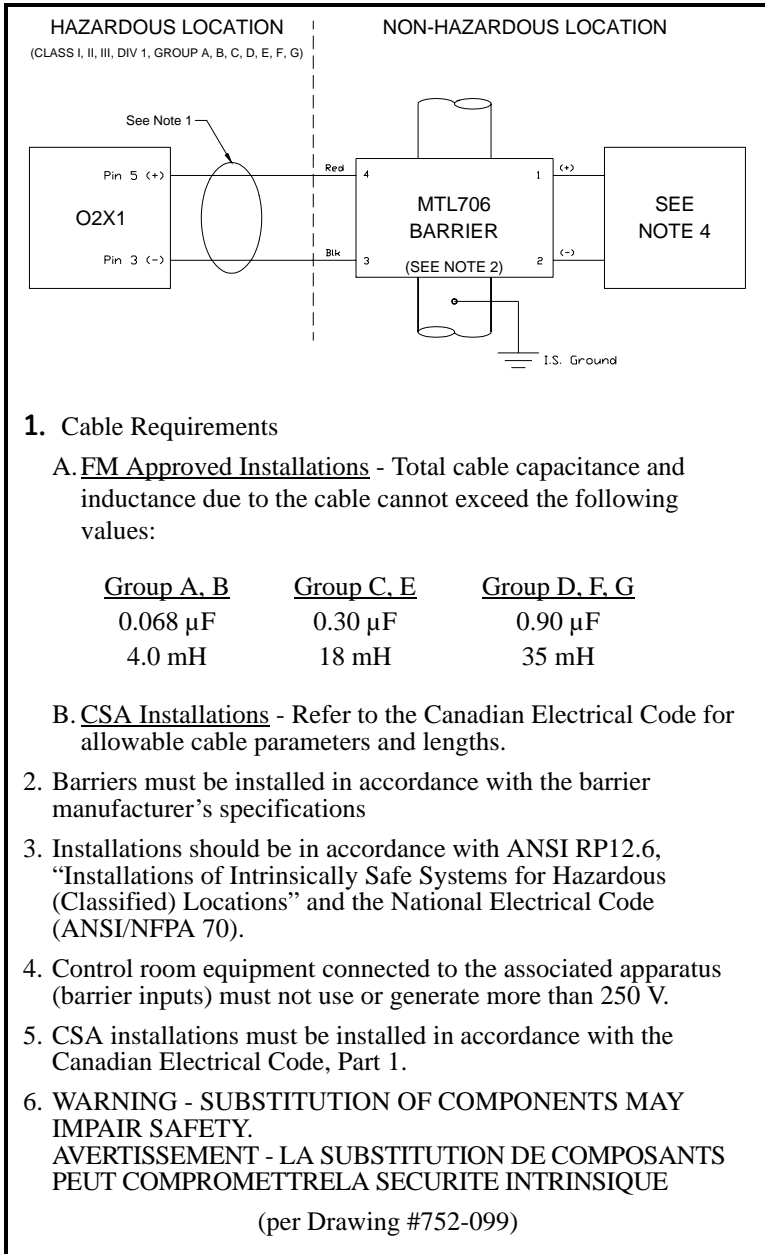
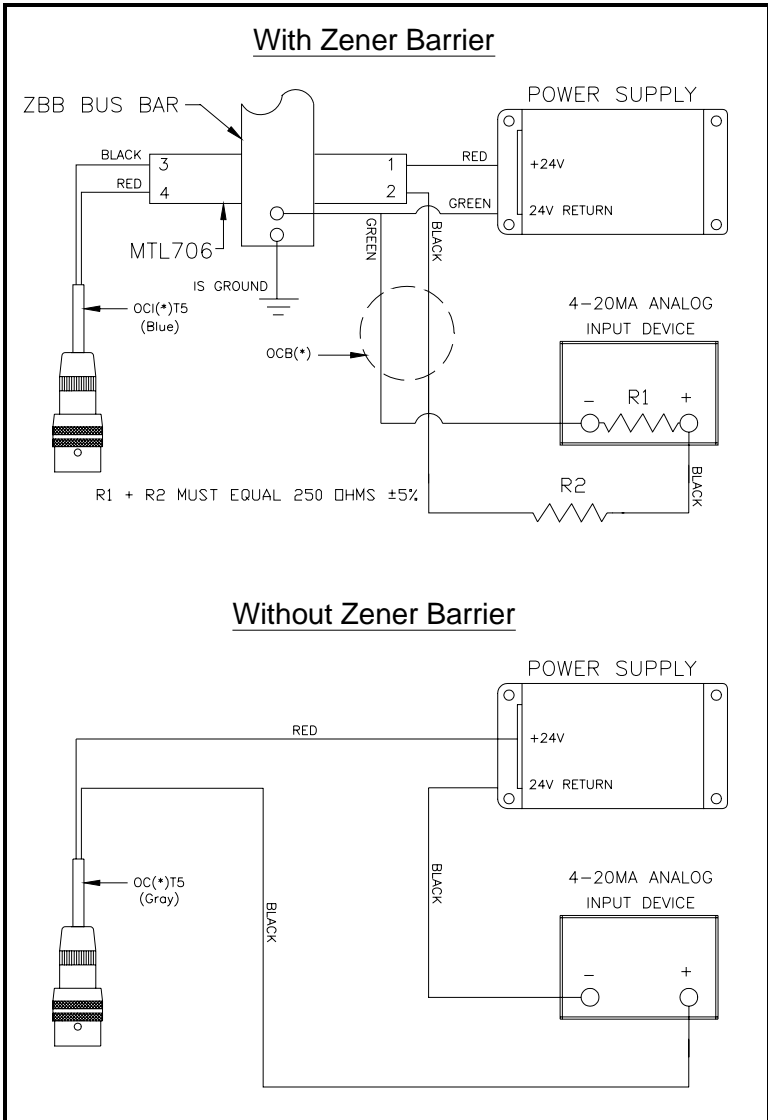

Figure 5: Typical Certification Requirements for 316 SS Process Unit Installations
Figure 6: O2X1 Wiring Diagrams
To wire the O2X1 oxygen transmitter refer to Figure 5 on the next page and Figure 6 on page 8. Then, proceed as follows:
For FM/CSA/BASIEFA certified applications, the O2X1 must be installed with a zener barrier (see Figure 5 on the next page). Also, for installations in a hazardous location, the blue OCI (5) T5 cable must be used.
- b. **With Zener Barrier:** Attach the red and black wires to the zener barrier, as shown in Figure 6 on page 8.
To construct a transmitter cable longer than the one supplied with the unit (up to a maximum of 1,100 ft), refer to *Note 1* in Figure 5 on the next page and the specifications on pages 24 and 25.